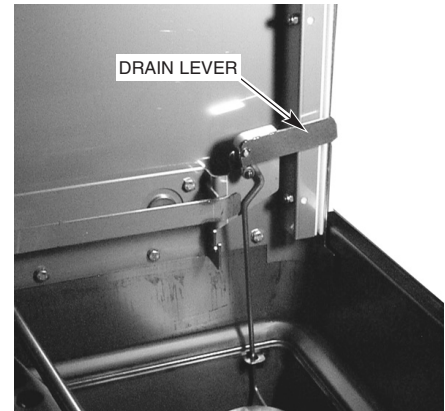

Fig. 27
4. Drain the machine by lifting up the drain lever (Fig. 27).